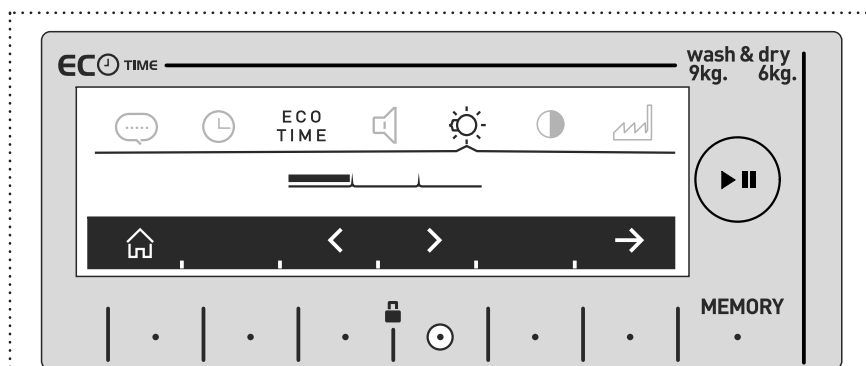

Figure 14
- » Use the ◀ button to decrease the brightness of the information screen, or the ▶ button to increase the brightness. The information screen displays a bar showing the level of brightness selected (fig 14).